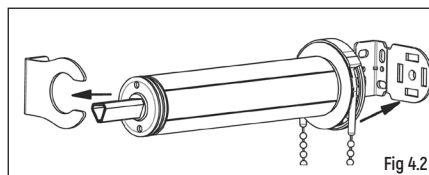

Fig 4.2
2. Install the master blind first. Insert the chain drive into the bracket until it engages, then slide the bearing at the other end in the link brackets. If it doesn't go in easily, slightly rotate the bearing until it slides into the bracket (**Fig 4.2**).